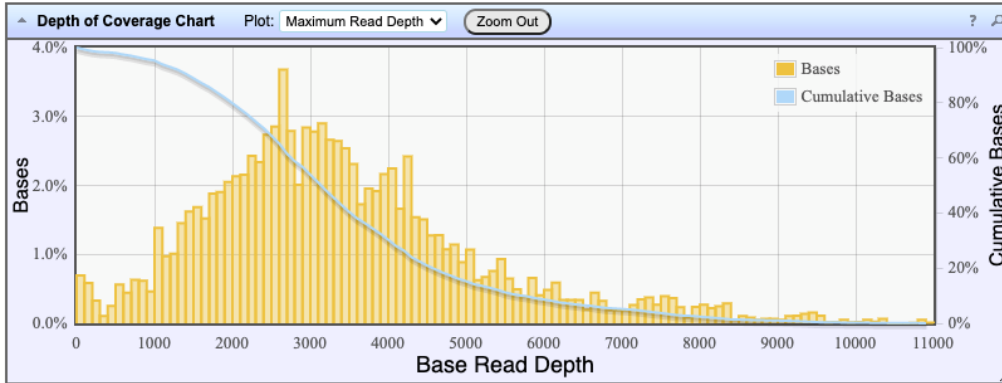
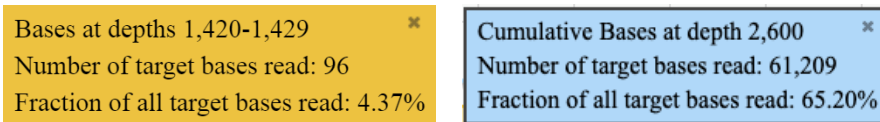
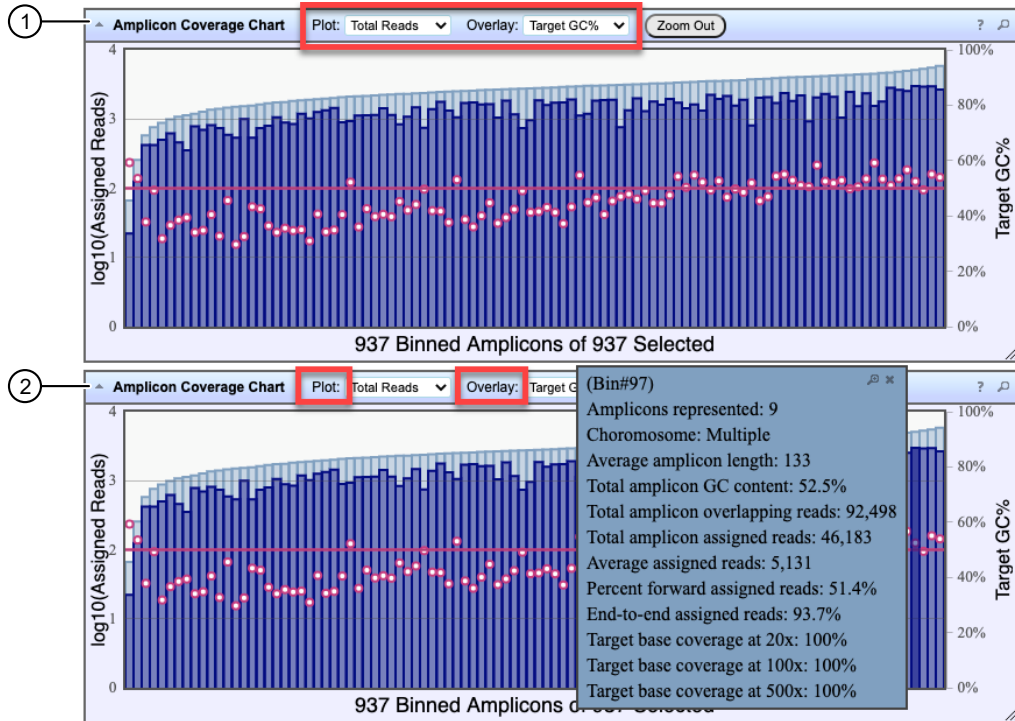

Figure 2 Representative Depth of Coverage Chart
Figure 3 Example detail panes
Figure 5 Representative Amplicon Coverage Chart
In most charts, you can click a data point to open a detail pane for that data. For example, in the Depth of Coverage Chart in Figure 2, click an individual orange bar to open the detail pane for bases within a specific range of base read depths. Click a point on the blue curve to open the detail pane for cumulative bases at that base read depth or greater. For example detail panes, see Figure 3. Similarly, you can click any point or bar within the Amplicon Coverage chart to view details for each amplicon coverage bin (see Figure 5).
- ① Example Total Base Reads plot with Viewing Options panel expanded. The plot is zoomed in on a specific chromosomal region. Click a yellow bar (top of the chart) to open the detail pane for a specific amplicon in the Amplicon Coverage Chart (see callout 2 in Figure 5).
- ② Example Total Base Reads plot where a chromosomal region has multiple targets. In the Resolve Multiple Targets pane, click  to zoom in on the region, or click one of the links to open the detail pane for the specific amplicon in the Amplicon Coverage Chart.
- ③ Example Strand Base Reads plot that is zoomed in on one specific amplicon. Click the yellow box to open the detail pane for the specific amplicon in the Amplicon Coverage Chart.